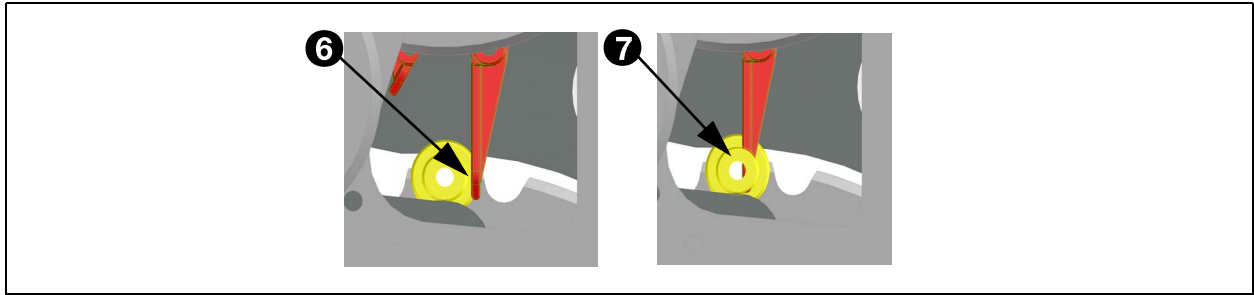

Fig. 62 - Detail of roller/U-holder
*If the chain is turned so far that the U-holder presses against the roller (6), see fig. 62, first adjust the U-holder in order to continue with the above-mentioned adjustment.*